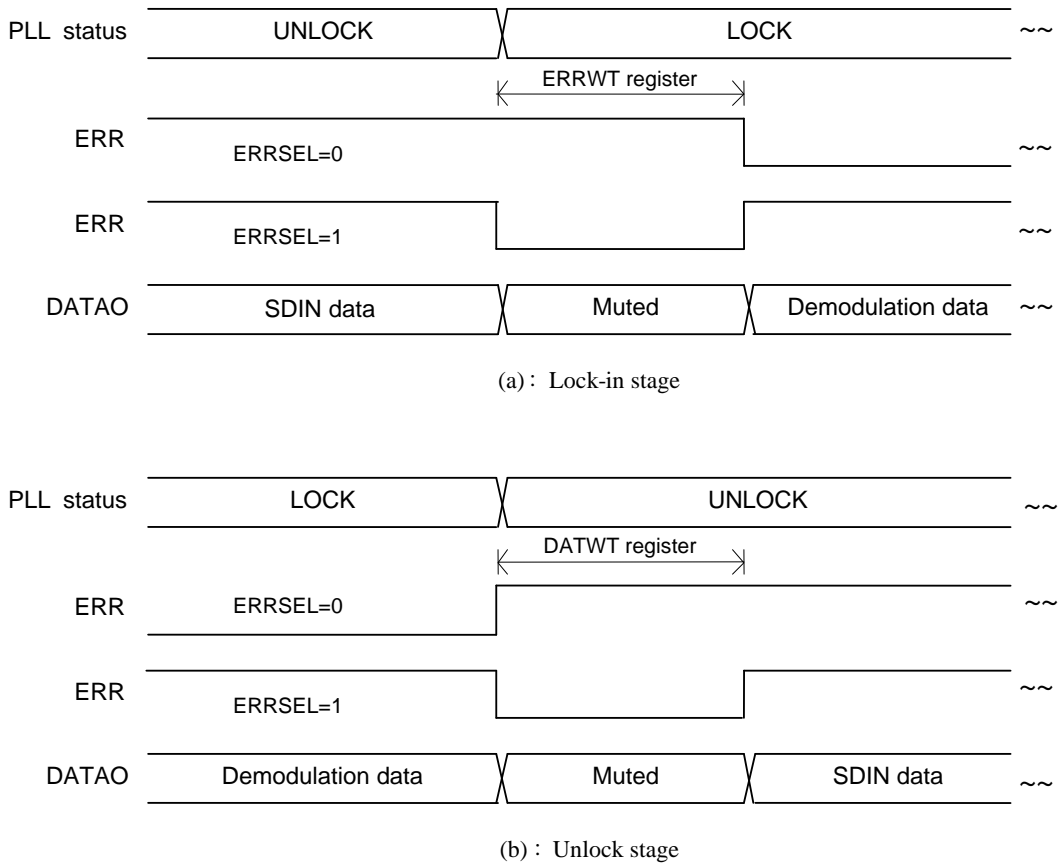

Figure 8.9: Timing Chart of DATAO Output Data Switching
- This mode outputs the state of the audio data outputted from the DATAO pin. (See "Figure 8.9")